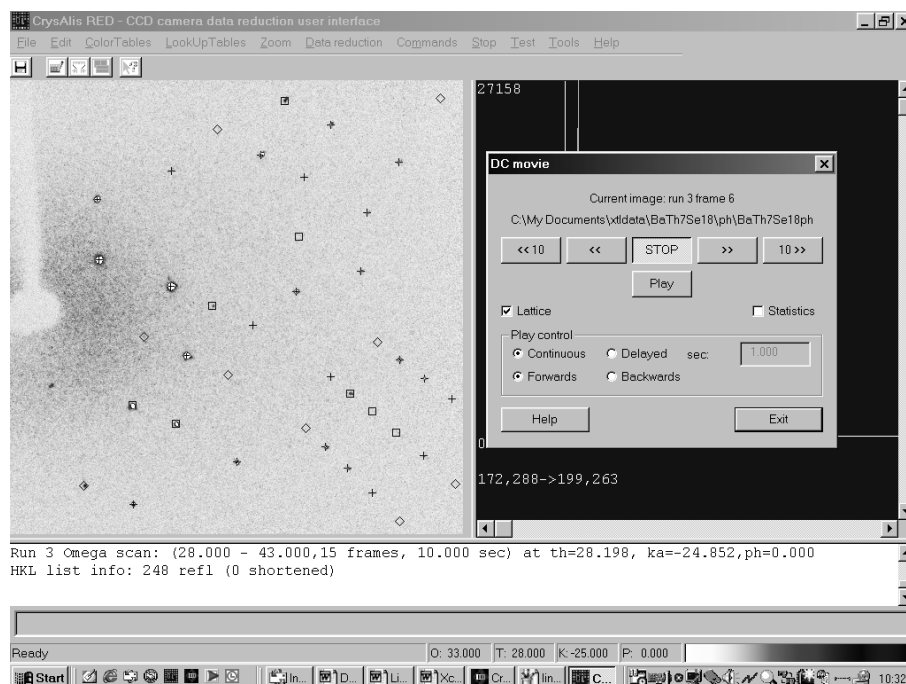

Figure 6.5.51 Screenshot of Data Collection Movie with Unit Cell Predictions Overlaid
3. If the unit-cell has previously been determined, index *etc* then predictions of reflection positions can be overlaid on the movie images. To do this, simply click on the box marked '**Lattice**' until a tick appears and then **Play**. The images should then look like the one in figure 6.5.51.